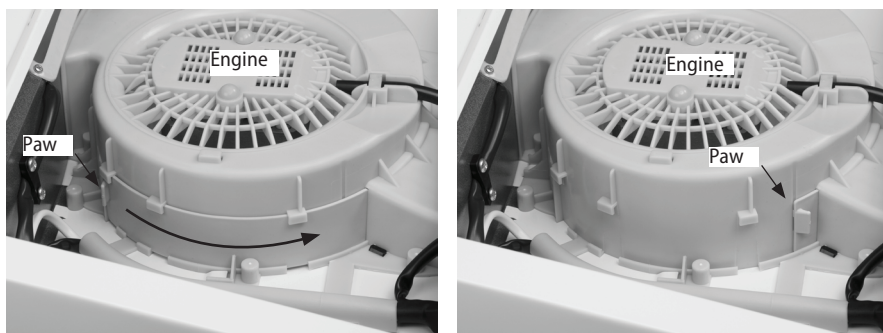

Fig. 4
3. In the engine compartment, place the lever to the recirculation mode (see Fig. 4).